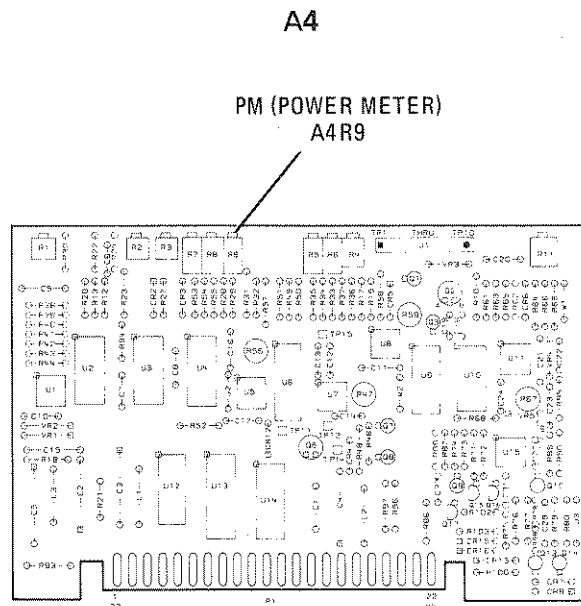

Figure 5-34. Power Meter Leveling Adjustment Location
4. Increase the 83595A power level until the 432A Power Meter reaches full scale deflection (83595A RF output equals approximately $+6$ dBm). Adjust A4R9 (PM) until the 436A Power Meter indication is equal to the 83595A **POWER** display minus the Power Splitter insertion loss noted in step 2 (approximately 6 dB). Refer to Figure 5-34 for the adjustment location.
5. Alternately set the 83595A **POWER** to -2 dBm (and adjust the 83595A **EXT CAL** control) then set the 83595A **POWER** to $+6$ dBm (and adjust A4R9 (PM) control) to obtain the best compromise where further adjustment of each is unnecessary.